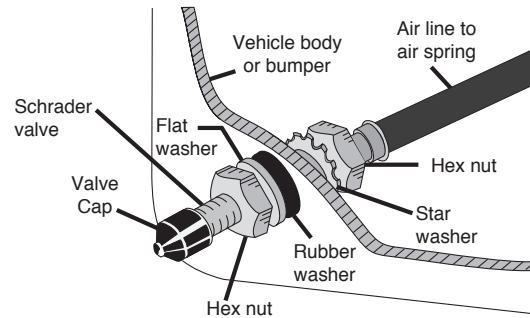

fig. E.3
7. Route the air line along the frame to the air spring fitting (Fig. E.3). Keep AT LEAST 6" of clearance between the air line and the exhaust system. Avoid sharp bends and edges. Use zip ties to secure the air line to fixed points along the chassis. Do not pinch the air line. Leave at least 2" of slack to allow for any movement that might pull on the air line.